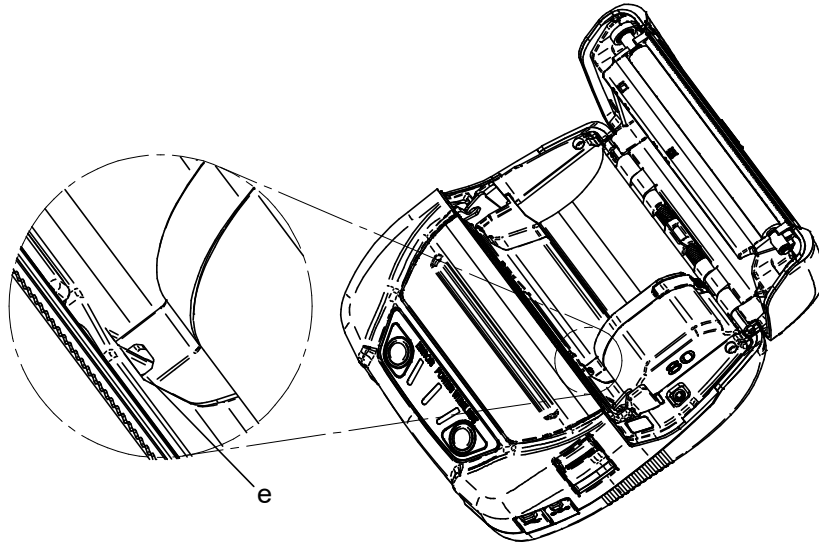

Figure 13-5 Partition Plate Installation (2)
1. Align the tab "e" of the partition plate to the groove "E" of the printer as shown in Figure 13-5.